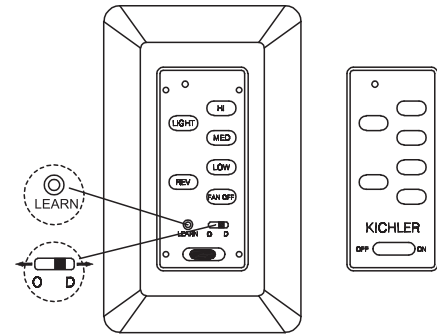

Fig. 21
**Step 1.** After installation is complete, press the “LEARN” button for 3 seconds within 30 seconds after AC power is turned on. Fan will turn on at medium speed and light (if installed) will turn on. This confirms that the “SMART SYNC” setting is active and ok. (Fig. 21)